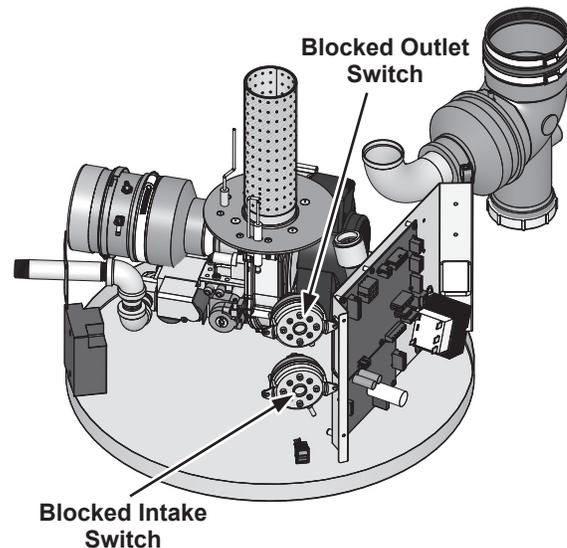

Figure 5. 50 Gallon Unit
3. Locate the water heater so it is protected and not subject to physical damage by a moving vehicle. In garage installation avoid damage to your water heater by installing a vehicle stop as shown in Figure 5. Check state and local codes for requirements prior to installation.